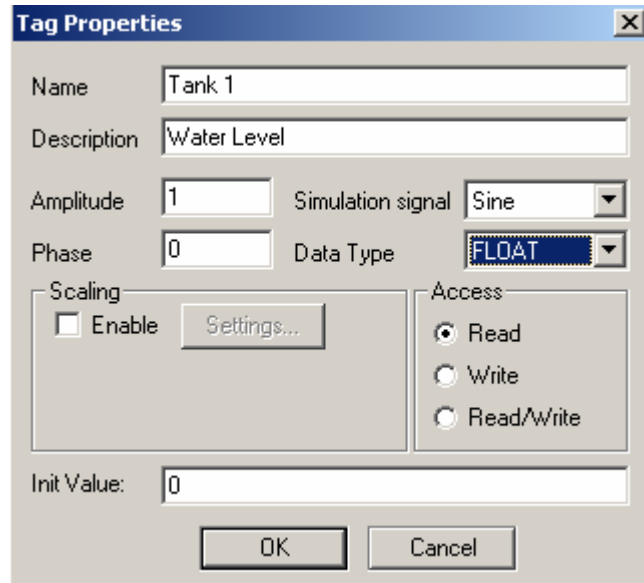

Figure 4.8. Tag Properties
2. This opens the **Tag Properties** dialog box, as shown in **Figure 4.8**. Change the following parameters: